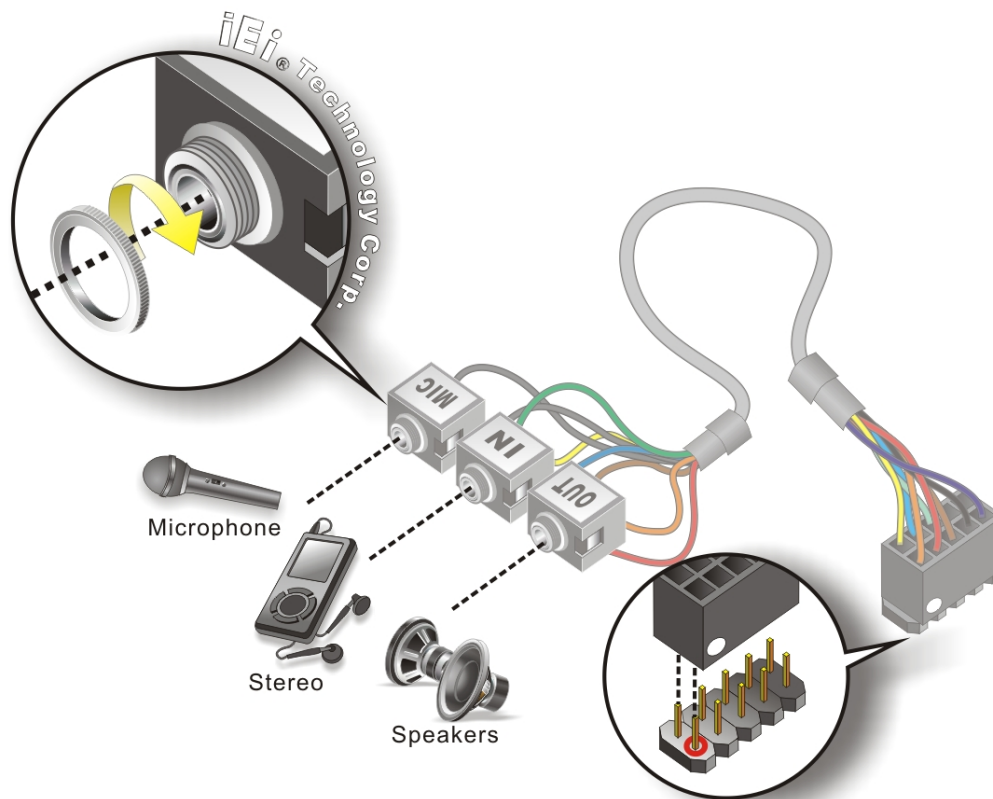

Figure 4-12: Audio Kit Cable Connection
- Step 2:** **Align pin 1.** Align pin 1 on the on-board connector with pin 1 on the audio kit connector. Pin 1 on the audio kit connector is indicated with a white dot. See Figure 4-12.